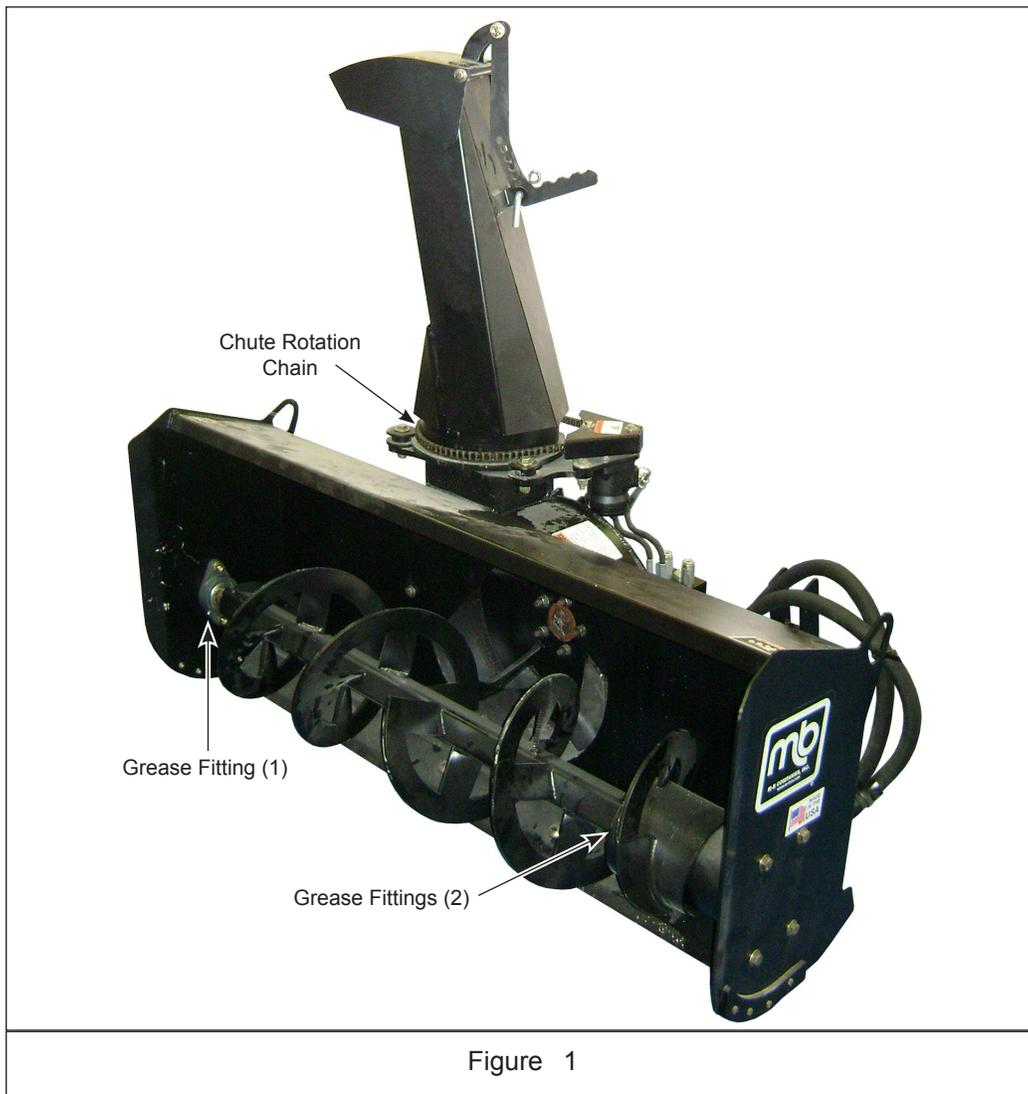

Figure 1
- There are (3) grease points on the unit: (2) in the shaft at the auger motor connection and (1) at the opposite end auger support bearing. These can be reached without removing any access covers. See Figure 1.